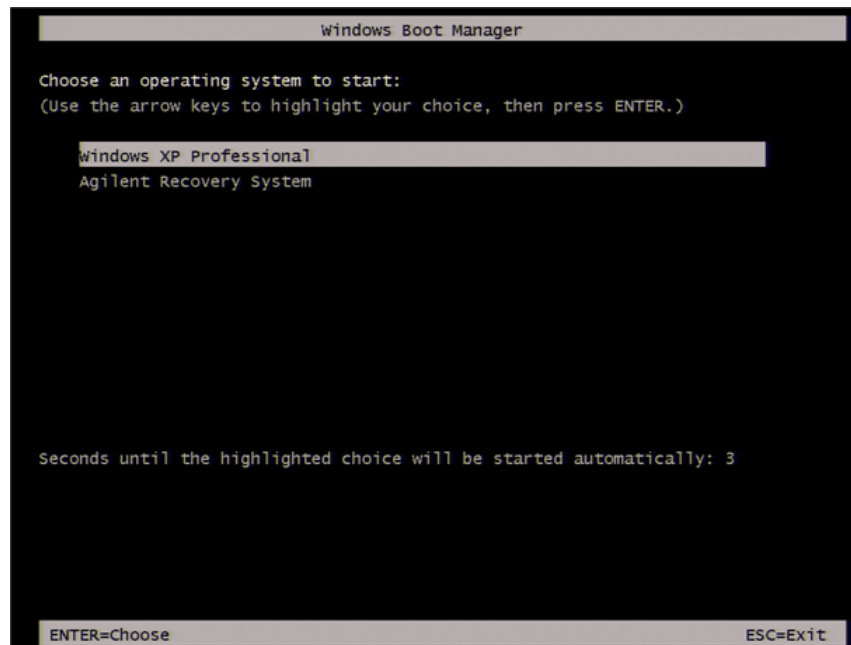

**Figure 11** Agilent Recovery Image Setup
**Step 7.** After a while, the E5061B restarts automatically. The Agilent Recovery Image Setup dialog box as shown in the Figure 11 appears. Click the **OK** button.